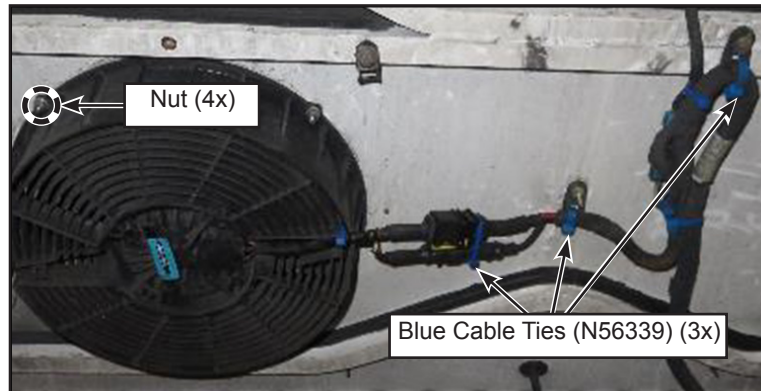

Figure 21 - Blue Cable Ties Securing the Fan Wiring at Harness Side
- 1.38. Remove and retain the four nuts around the fan and rotate it counter clockwise (**for the fiber door configuration**) (see figure 21) to have the engine door fan routed horizontally wiring at the middle right and reinstall the four fan nuts.
- 1.39. Secure the wiring at the connectors and on the fiber door at harness side with blue cable ties PN N56339 (3x) (see figure 21).